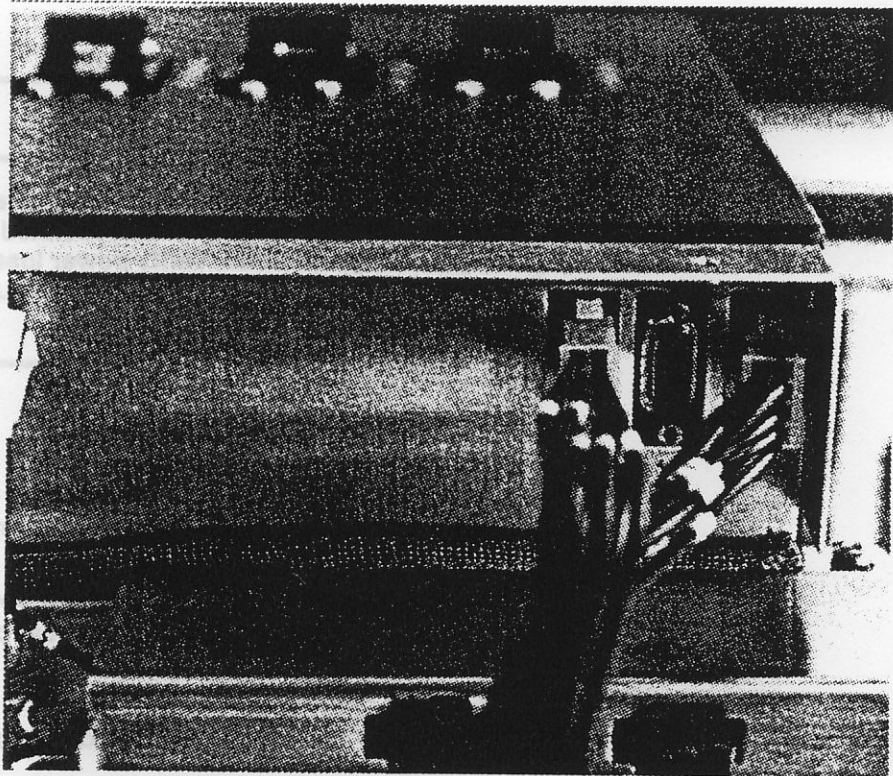

Figure 7-27. Incoming Power Module Connectors and Data Cable
6. Unplug the J2, J3, and J4 connectors from the incoming data cable module. Refer to Figure 7-27. J3 is attached with two screws.